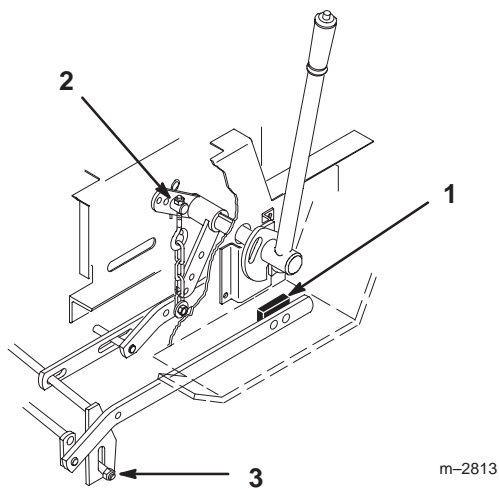

Figure 12
2. Adjust lift chain by turning trunnion on eyebolt in rear hole of tractor lift (Fig. 12). Turn trunnion clockwise to raise or counterclockwise to lower mower.
3. Transport level stops are normally in the bottom of the slot, however they can be adjusted up for side-to-side level when extra weight from a grass catcher is on one side (Fig. 12).